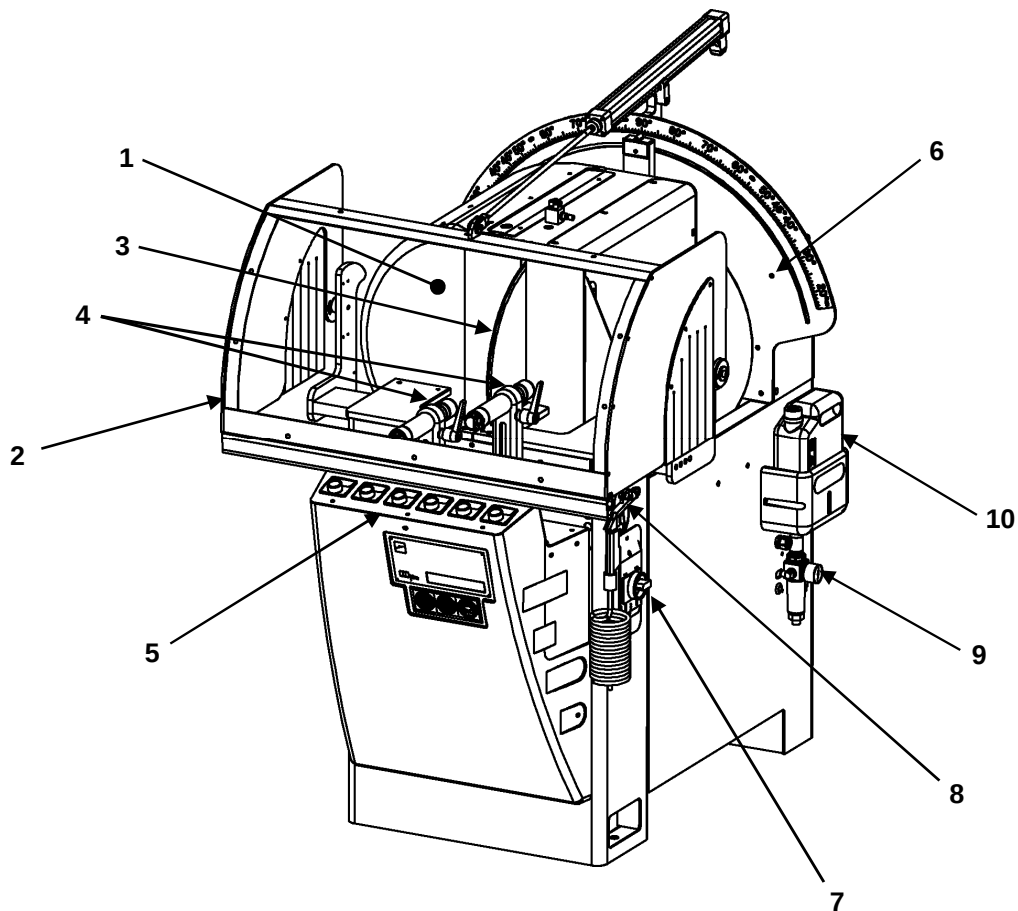

Fig. 03-01
3.3 BASIC MACHINE VERSION COMPONENTS (Fig. 03-01)